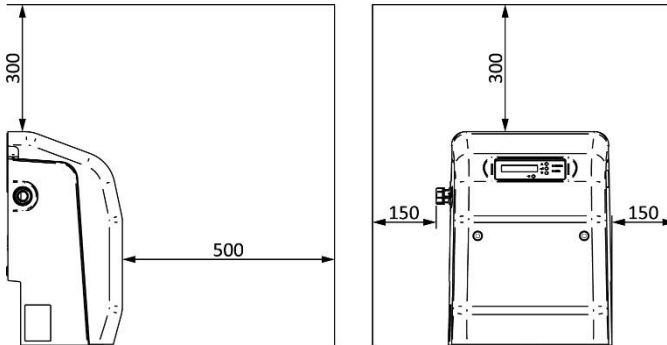

Fig. 2
- 4.2 Access and minimum clearance requirements:** For emergencies and maintenance the unit must be easily accessible and have the minimum clearance around it as laid out in Fig. 2. Additional access to the front of the unit will be required to operate the keypad and view the display.